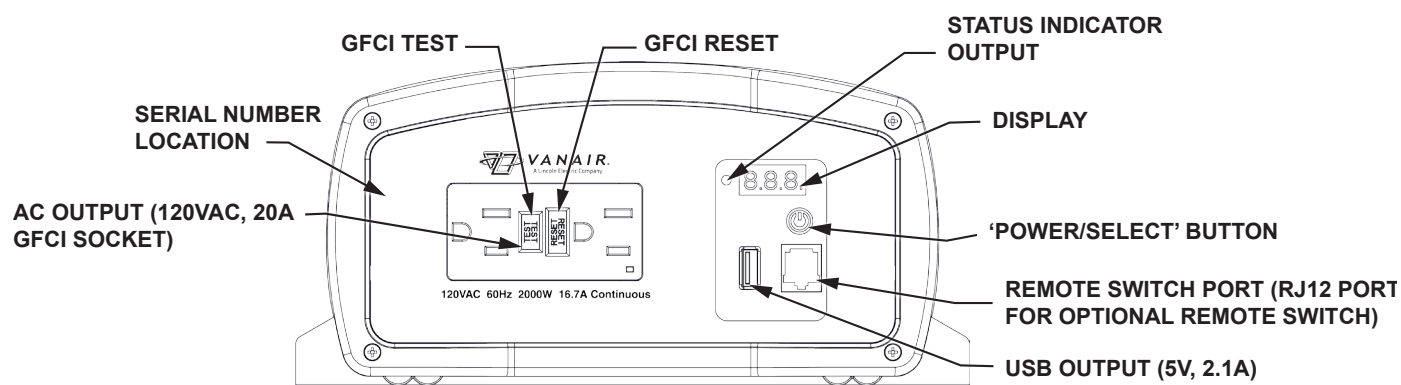

Figure 1-1: AC Output Front Panel
Insert the Remote Switch optional accessory (INVERTER,EPEQ® 12V REMOTE SWITCH - Part no. 289504) to the RJ12 “REMOTE SWITCH PORT” located at the Front AC Panel of the Inverter. (See “*Figure 1-1: AC Output Front Panel*”.)
- Turn the unit ON by pressing and holding the ‘Power/Select’ Button on the main unit for about a second until a beeping sound occurs. The “status’ indicator turns on green, indicating the inverter is ON. Check the digital display showing measured battery voltage and output power alternatively. Both AC and 5V USB are now available. (See “*Figure 1-1: AC Output Front Panel*”.)